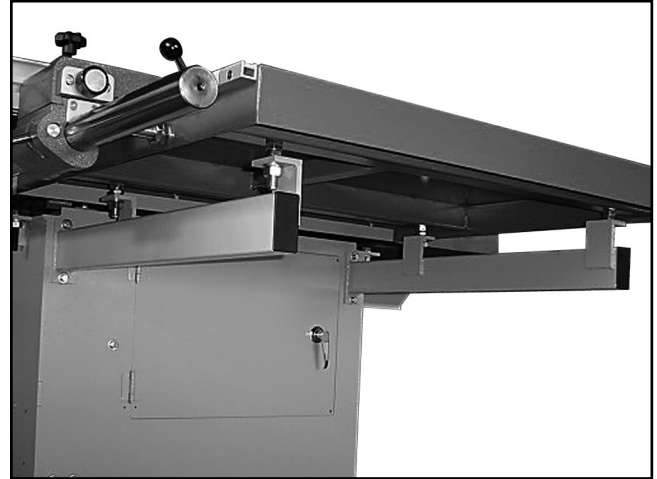

Figure 6. Large extension table installed.
4. With the help of two assistants, install the large extension table with four M8-1.25 x 20 hex bolts, lock washers, and flat washers as shown in **Figure 6**.